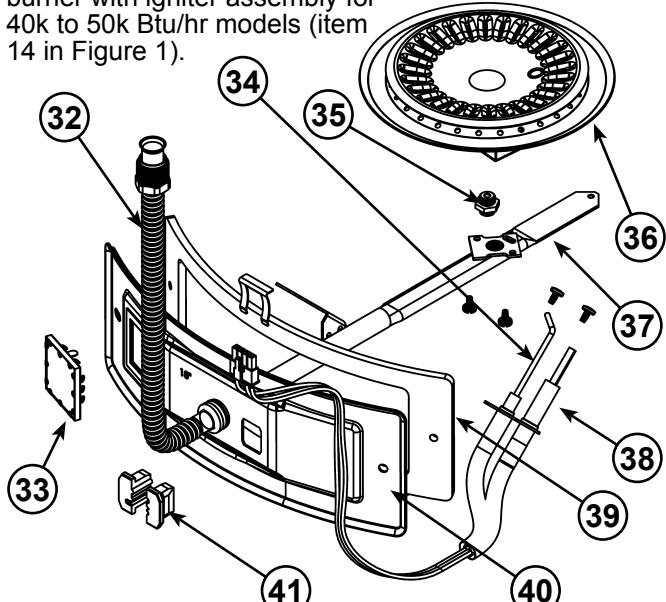
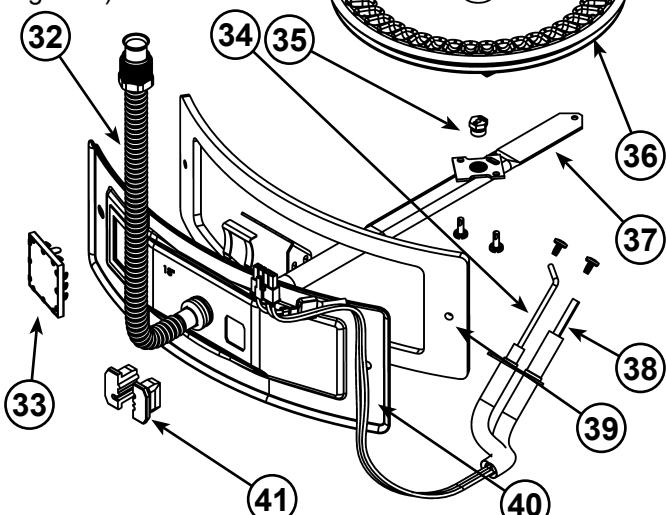
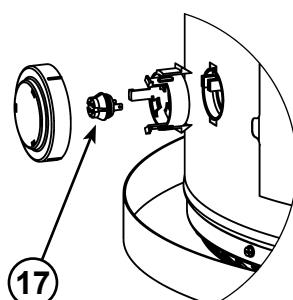
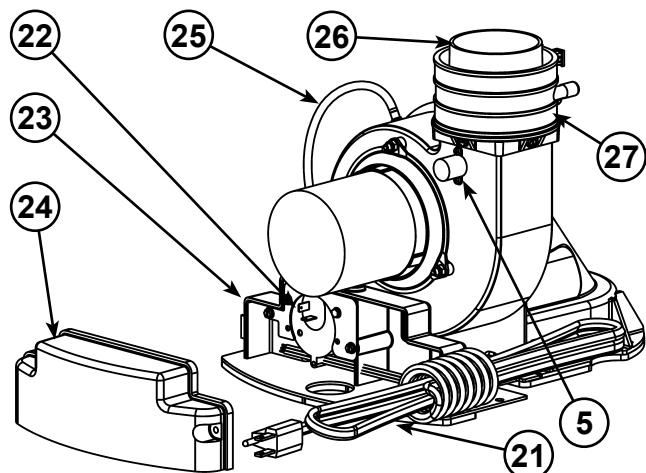

Figure 3.
Figure 4.
Figure 5.
Figure 6.
| 1 Vent Termination Elbow with Rodent Screen                             | 18 **Combo Heating System Return Inlet (Optional)   | 35 Gas Orifice (see Figure 3 & Figure 4)                     |
| 2 *Vent Pipe  | 19 Air Inlet Snorkel                                | 36 Sheet Metal Burner (see Figure 3 & Figure 4)              |
| 3 *Vent Pipe Coupling (if required)                                     | 20 **Combo Heating System Supply Outlet (Optional)  | 37 Gas Manifold (see Figure 3 & Figure 4)                    |
| 4 *Vent Pipe Elbow (long radius)  | 21 Blower with Power Cord (see also Figure 6)       | 38 Hot-Surface Igniter (see Figure 3 & Figure 4)             |
| 5 Blower High Limit Switch (see Figure 6)                               | 22 Air Switch (inside box) (see Figure 6)           | 39 Manifold Door Gasket (see Figure 3 & Figure 4)            |
| 6 T&P Valve   | 23 Junction Box (see Figure 6)                      | 40 Manifold Door (see Figure 3 & Figure 4)                   |
| 7 Cold-Water Inlet Nipple/Diptube                                       | 24 Junction Box Cover (see Figure 6)                | 41 Two Piece Grommet With Clip (see Figure 3 & Figure 4)     |
| 8 Baffle Assembly   | 25 Air Tubing (see Figure 6)                        | 42 *Inlet Water Shut-off Valve                               |
| 9 * Discharge Pipe  | 26 Rubber Coupling (see also Figure 6)              | 43 *Gas Supply*  |
| 10 Gas Control Valve/THERMOSTAT (Honeywell)                             | 27 Gear Clamp (see also Figure 6)                   | 44 *Main Manual Gas Shut-off Valve                           |
| 14 Manifold Door Assembly (behind outer door) (see Figure 3 & Figure 4) | 31 ***Control Harness                               | 48 Rating Plate  |
| 15 *Floor Drain   | 32 Flexible Manifold Tube (see Figure 3 & Figure 4) | 49 *Thermal Expansion Tank (required for all closed systems) |
| 16 *Metal Drain Pan   | 33 Viewport (see Figure 3 & Figure 4)               | * , ** , *** , **** see notes on following page              |
| 17 Flammable Vapor Sensor (under cover) (see Figure 5)                  | 34 Flame Sensor Rod (see Figure 3 & Figure 4)       |  |
This device is located on the blower (see Figure 6, item 5) and limits the maximum temperature of the blower. If the blower temperature rises above the temperature setting, the switch opens causing the heater to shut down. The switch will auto reset once the temperature drops sufficiently.
This device, located in the junction box, monitors the air pressure produced by the blower. In the event that the exhaust venting becomes blocked or sufficiently restricted, the switch will shut the heater down (see Figure 6, item 22).